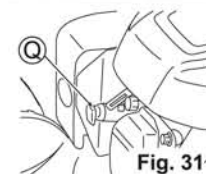

Fig. 31
1. Remove Plug cap (Q). (See Fig. 31)